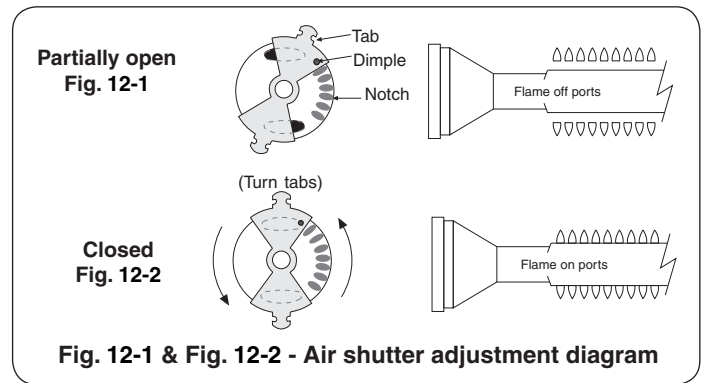

Fig. 12-1 & Fig. 12-2 - Air shutter adjustment diagram
Main burner air shutters are easily accessed by removing the front panel (face). The air shutters are located at the front of the burners behind the face (see PARTS LIST). The air shutter has a small dimple (see Fig. 12-1) that allows it to lock into notches in the burner face. This prevents the air shutter from moving.
3. After burning for two minutes, open the air shutters, **using the tip of a screwdriver**, until the flames lift off, or appear not to be touching the burners (Fig. 12-1).